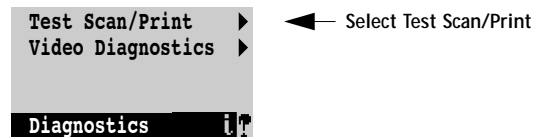

FIGURE 5-11 Test Scan/Print command
4. At the screen shown in Figure 5-11, select Test Scan/Print.